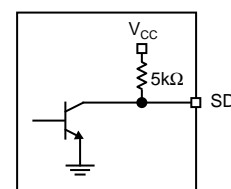

Figure 5. SD Output Structure
The SY88983V generates a chatter-free signal detect (SD) open-collector TTL output with internal $5\text{k}\Omega$ pull-up resistor as shown in Figure 5. SD is used to determine that the input amplitude is large enough to be considered a valid input. SD asserts high if the input amplitude rises above the threshold set by SD_{LVL} and de-asserts low otherwise. SD can be fed back to the enable (EN) input to maintain output stability under a loss-of-signal condition. EN de-asserts low the true output signal without removing the input signals. Typically, 4.6dB SD hysteresis is provided to prevent chattering.